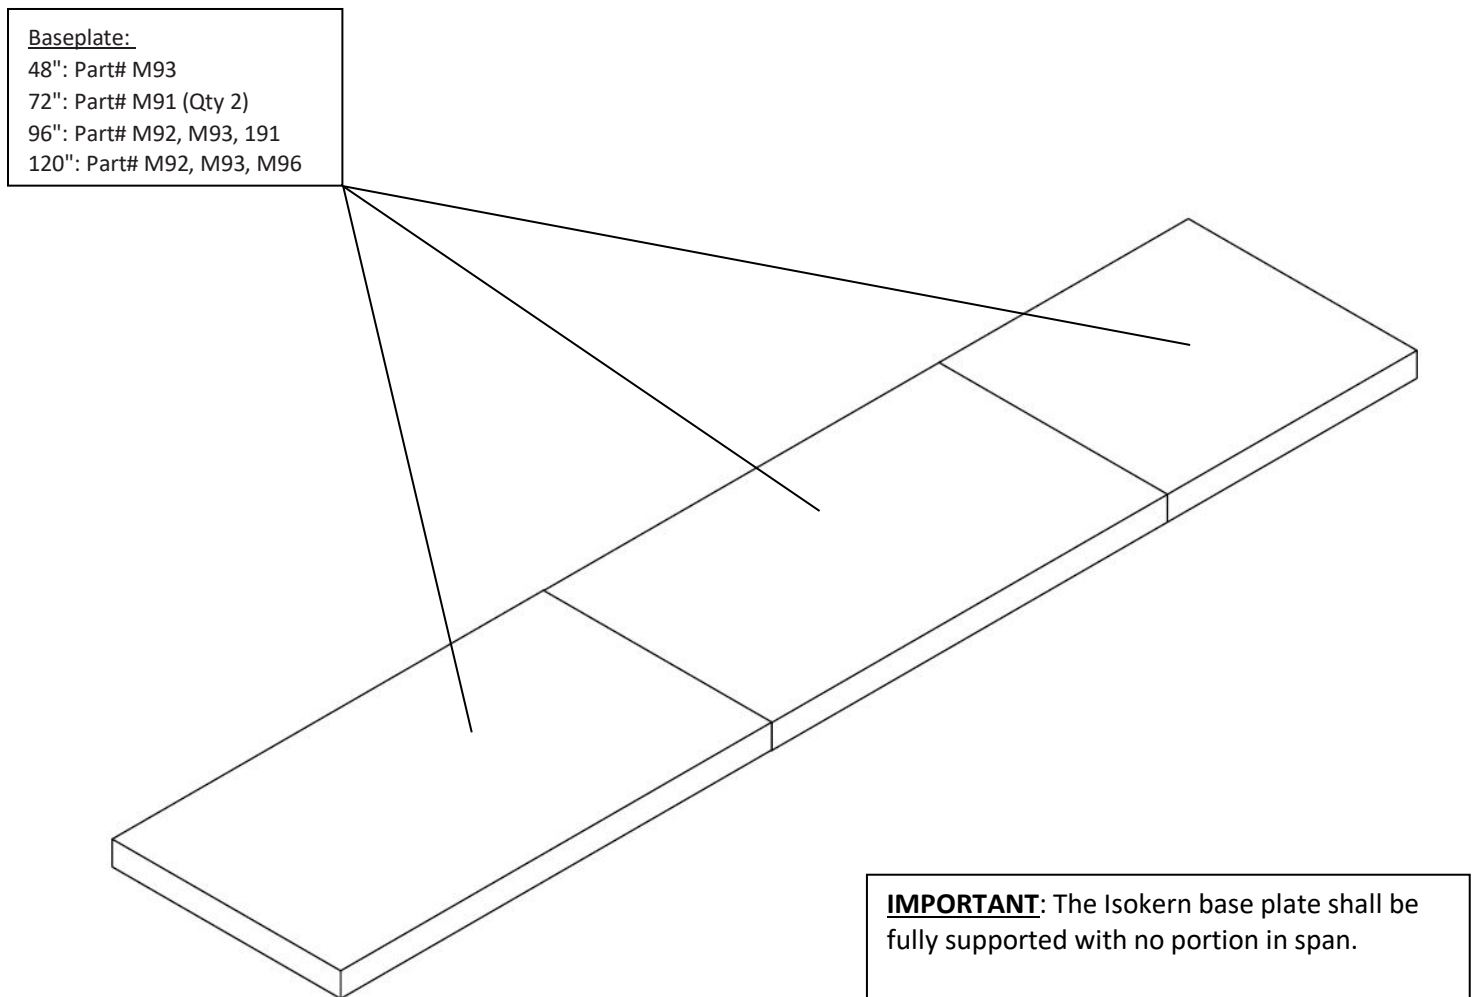

FIGURE 8
- 1) Apply Earthcore Adhesive to the joints between each baseplate part and ensure to set each base plate in a full bed of Earthcore Adhesive on a level support surface (**Figure 8**). See page 15 for information regarding the supporting floor system. Do not set the base plate so that it is in span. Refer to pages 6-13 for part and assembled firebox dimensions.